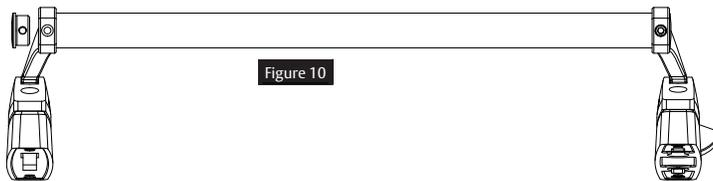

Figure 10
4. Slide plug into bar with holes aligned and attach with 10-24 x 3/4" cap screw. (Figure 10)